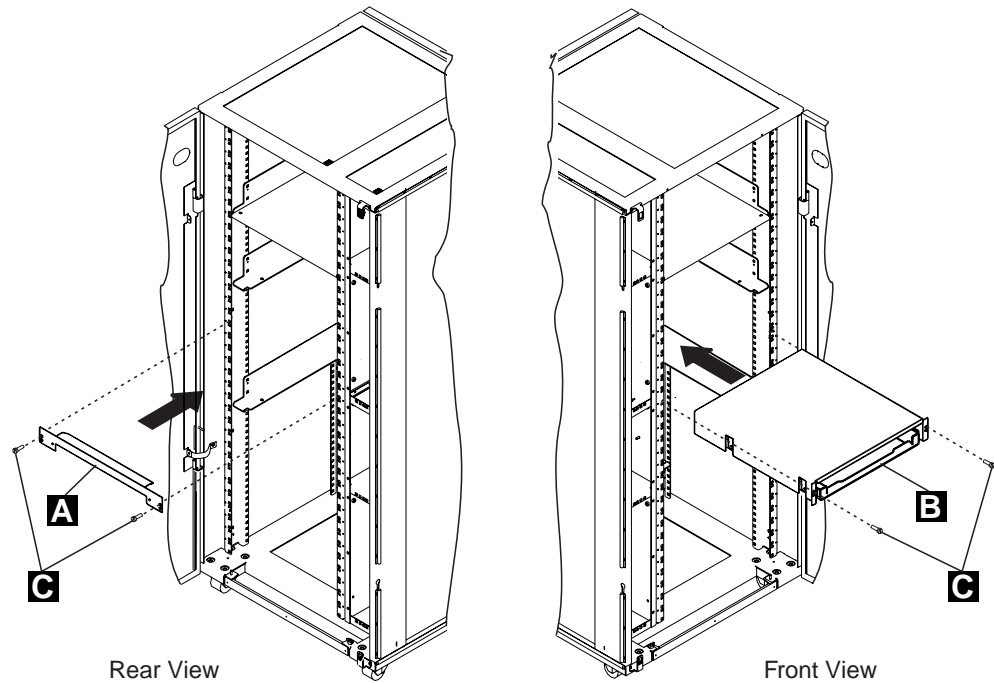

Figure 1-51. Installing the Service Drawer
11. ____ Refer to Figure 1-51, on the rear side of the controller expansion, install bracket **A** using two screws **C** (PN 1621230).